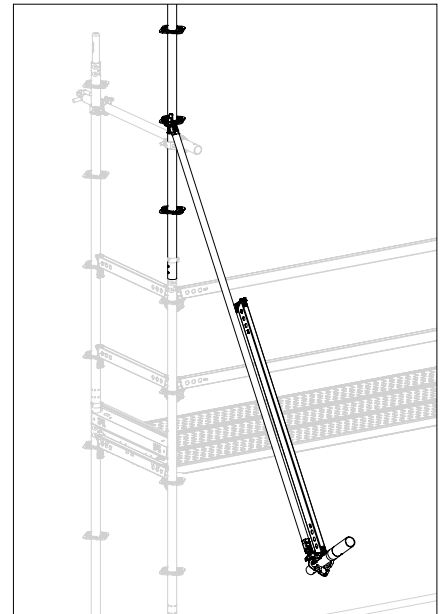

Fig. A4.03b
2. Install the node brace on the fixed rosette of the standard, making sure that the bolt is locked in place. (Fig. A4.03b)